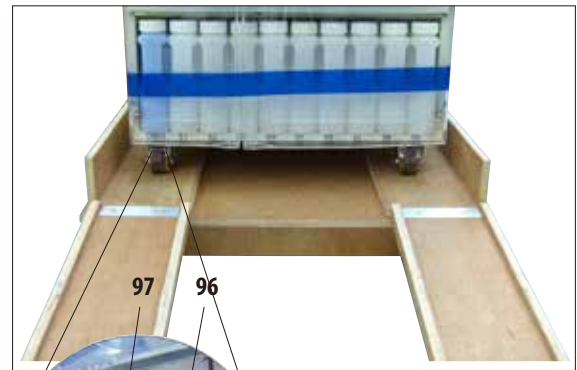

Fig. 10
- Now release the brake lever (97) on the two front transport casters (96) so that the instrument can be moved (Fig. 10).
To do so, push the lever (97) (detail in Fig. 10) back downwards.